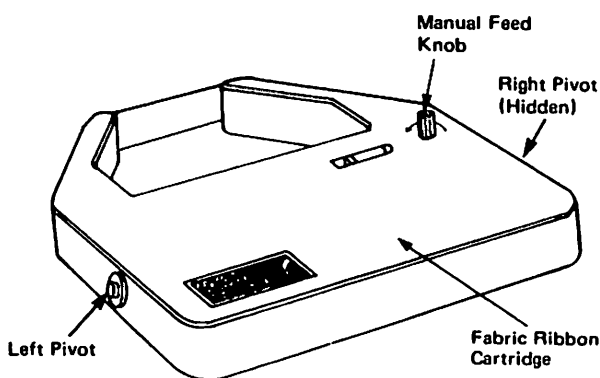

Figure 36 Fabric ribbon cartridge
3. Turn the manual feed knob on the new ribbon cartridge in the direction of the arrow (counterclockwise) to put tension on the new ribbon (Figure 36).